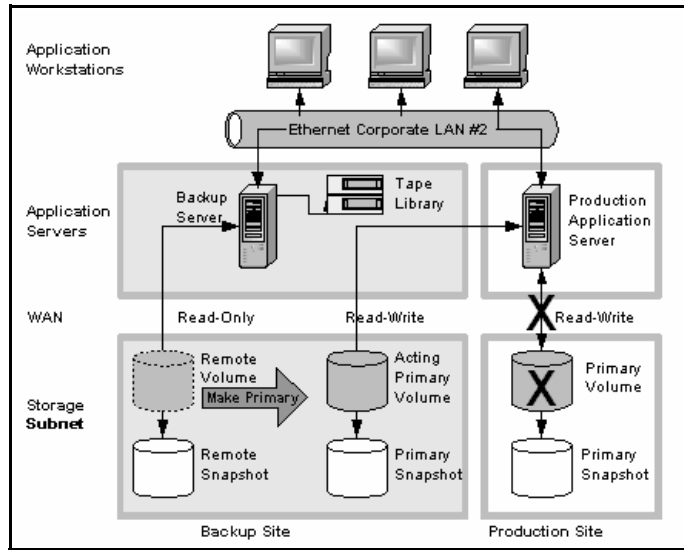
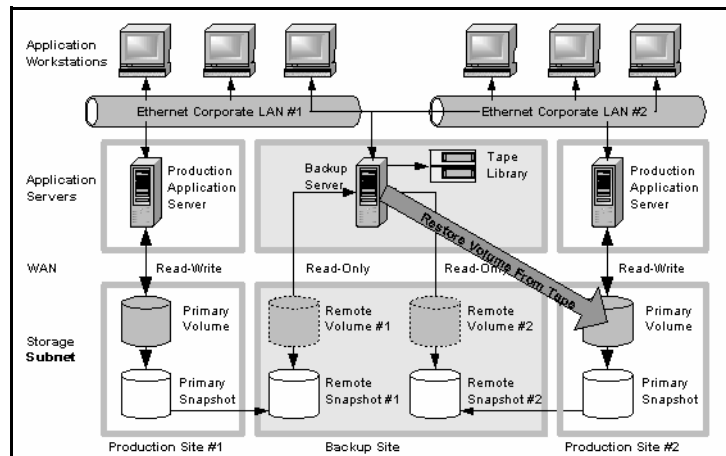

Figure 262. Restoring from a Remote Volume
Figure 263. Restoring from Tape Backup
- Use the remote snapshots to resume operations as shown in Figure 262. If you created tape backups, you can recover data from tape backups, as shown in Figure 263.